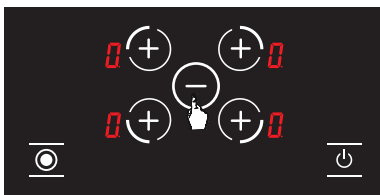

Figure 17
3. You can also use the buttons **0** to adjust the volume on all hotplates **H**. (See fig. 17.) When the power on all the hotplates is **0**, the hob switches itself off after 20 seconds.